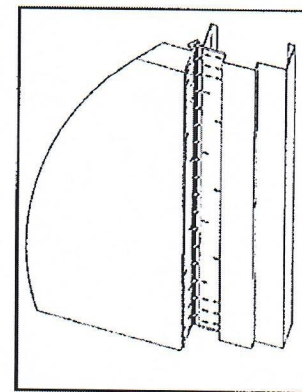

Fig. 3
1. Position the door (with hinge attached) at 90° to the frame. Attach the hinge to the frame rabbet. (See Fig. 3) For metal frames, use the #12 self-drilling screws provided (recommended driver speed 1,900-2,500 RPM).